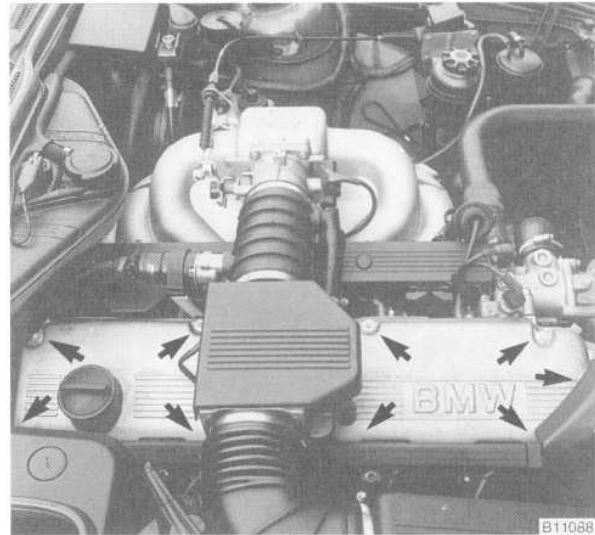

Fig. 6. Cylinder head cover fasteners (arrows).
4. Disconnect the breather hose from the cylinder head cover. Remove the nuts and bolts shown in Fig. 6. Lift off the cylinder head cover and its gasket.